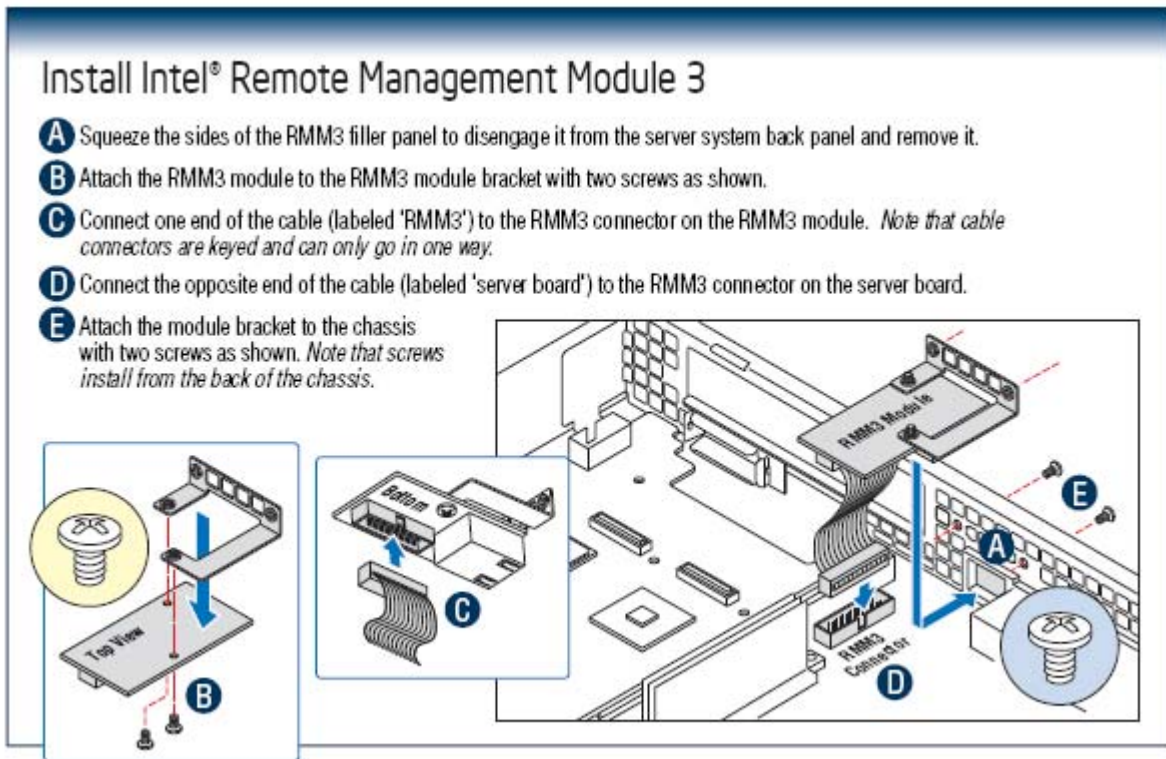

Figure 2. Installing Intel® RMM3 on Intel® Server Boards S5500UR and S5500WB
1. Mount the Intel® RMM3 module to the header on the server board and secure the metal fastening bracket to the back of the chassis as shown in figure 2. This aligns the RJ-45 with the opening in the chassis.